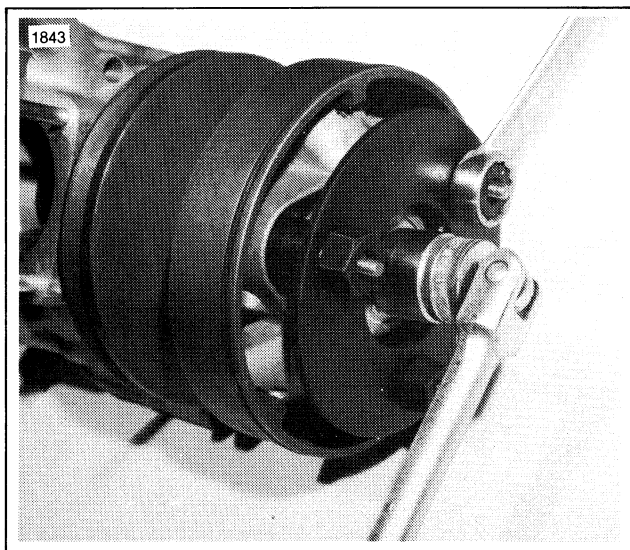

Figure 7-6. Removing drive cup nut
See Figure 7-6. Install the TRANSMISSION HOLDING TOOL, Part No. 97330-62A, on the transmission and remove the nut lock and nut.
5. See Figure 7-6. Place TRANSMISSION HOLDING TOOL, Part No. 97330-62A, on drive cup and tighten nut to 75-85 ft-lbs torque. Bend the nut lock tabs down against the nut flats.